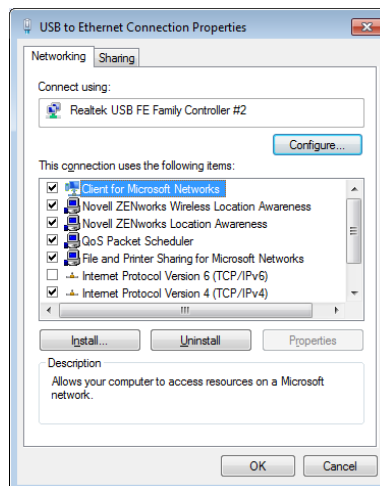

Figure 20 — Connection Properties
3. Right-click the connection and select **Properties**. The **Connection Properties** window opens. See Figure 20.